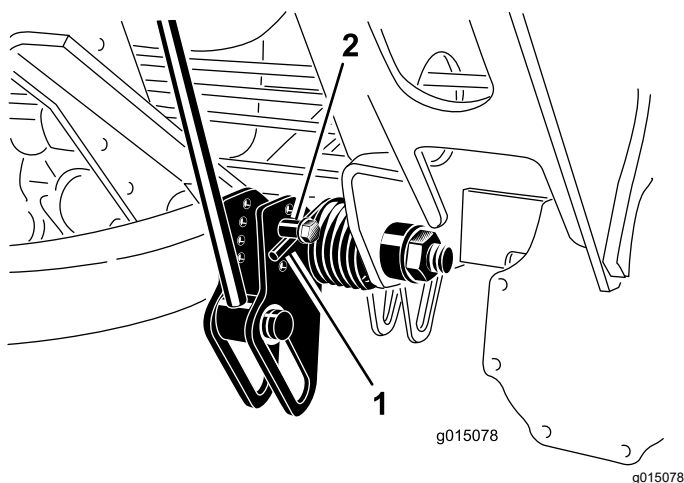

Figure 71
2. Insert a tube or similar object onto the long spring end to relieve the spring tension during the adjustment (Figure 71).
3. While relieving the spring tension, remove the bolt and locknut securing the spring actuator to the bracket (Figure 71).